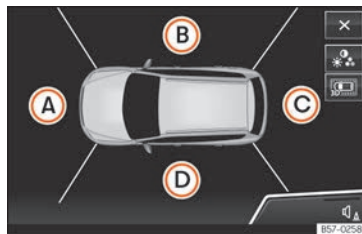

Fig. 292 Display of the Area View system: aerial view.
Key to the Fig. 292:
The aerial view is generated by combining the images from all the cameras  **» Fig. 292**. The aerial view can be selected by pressing the *vehicle* in the area.
Select the corresponding view by pressing the different areas **» Fig. 292 (A) to (D)** of the aerial view or the reduced aerial view.
Manual connection of the display:	Press the Area View button »»» Fig. 293 once. The infotainment system screen displays the aerial view »»» Fig. 292. If you press the Area View button when driving above 15 km/h (9 mph), the image will not be displayed.